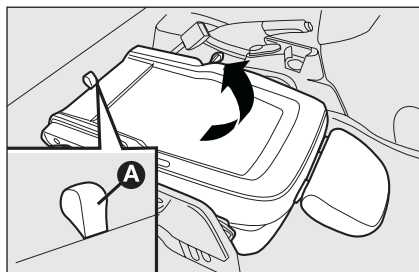

fig. 24
- ☐ grab the lever **A-fig. 24** and lift the backrest;